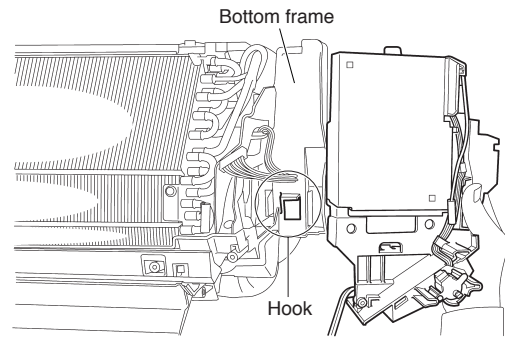

Fig. 24
(7) Pull up the electrical box forward to remove. (Fig.24)